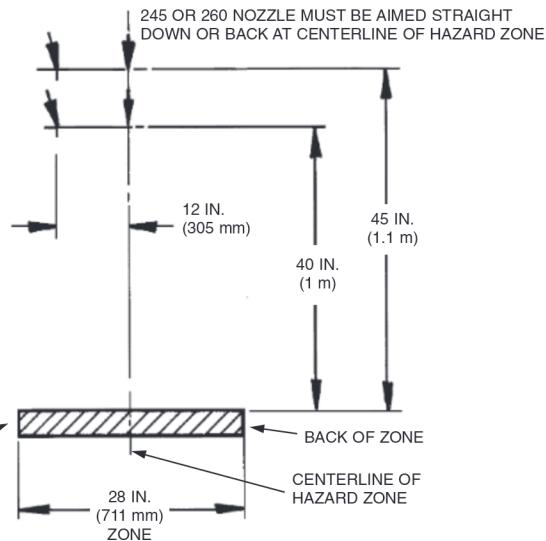

FIGURE 74
- 3. The overlapping appliance nozzles must be located 40 in. to 45 in. (1 m to 1.1 m) above the top surface of the protected appliances. See Figure 74.
- 4. The overlapping appliance nozzles must be located 0 in. to 12 in. (0 mm to 305 mm) forward of the centerline or aimline of the selected hazard zone. See Figure 74.